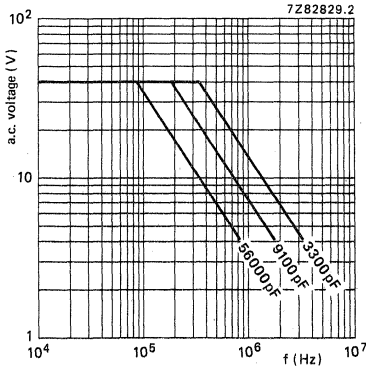

Fig. 3 Maximum a.c. voltage (r.m.s. value) as a function of frequency at $T_{amb} \leq 70^\circ C$, for $U_R = 63 V$.
* At $T_{amb} \leq 70 \text{ }^\circ\text{C}$ the maximum permissible sinusoidal voltage can be found in Figs 3, 4 and 5.